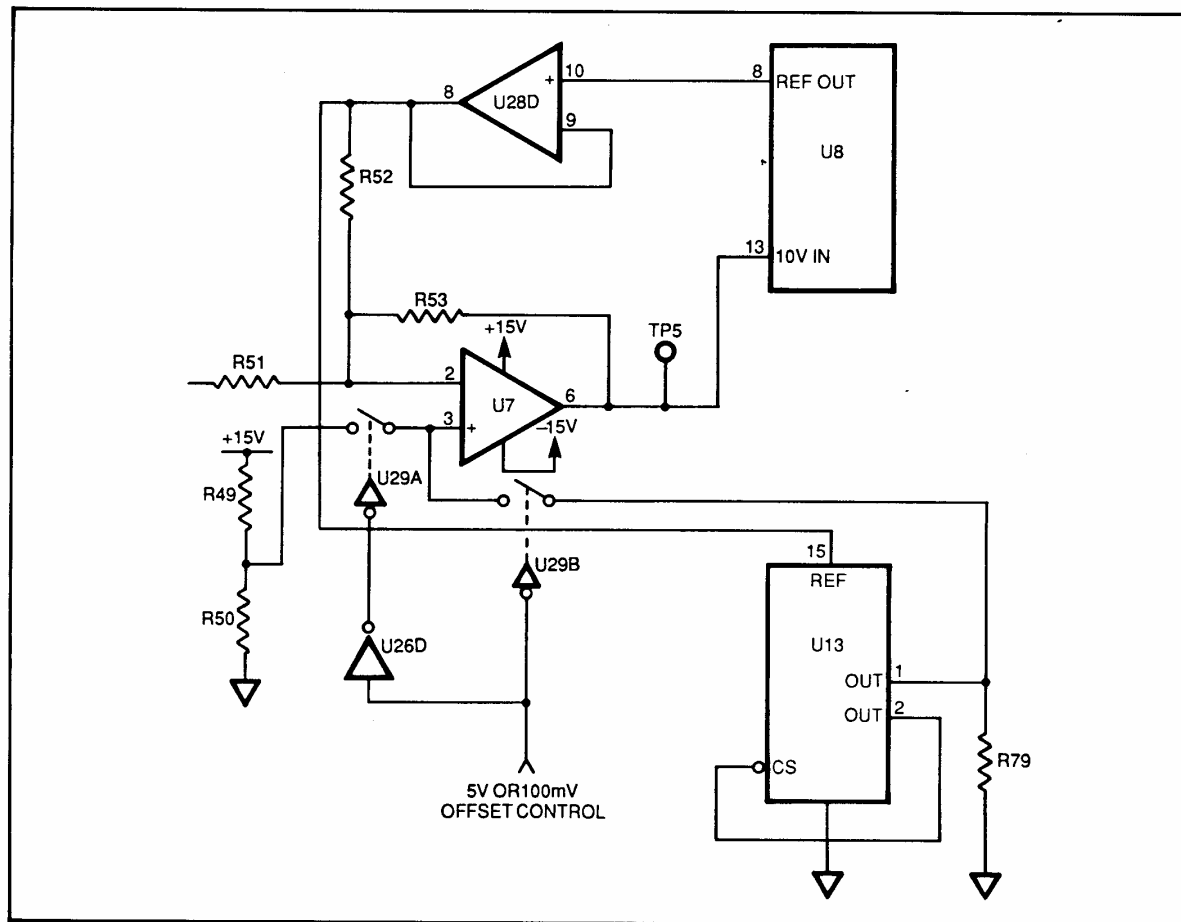

Figure 8-34. Level-Shifting/Inverting Stage
1. It inverts the applied signal so that it is positive when input to the U8 ADC (Figure 8-34).
The U8 ADC has its own on-chip voltage reference. This reference is externally buffered by U28D (Figure 8-34) and used as a reference to the level-shifting/inverting stage, U7, to the U13 DAC.